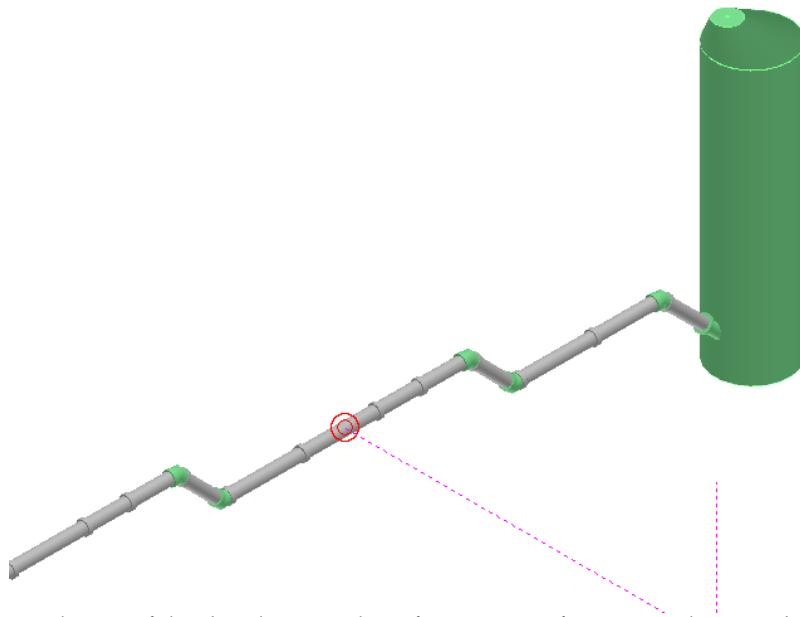

Figure 20: Mid Point of the Sloped Pipe as the Reference Target for Routing the Lateral Sewer Line
34. Select the **Reposition Target** option on the **PinPoint** ribbon to define a reference point to route the lateral sewer line. Place the PinPoint target at the midpoint of the sloped pipe, as shown in Figure 20.